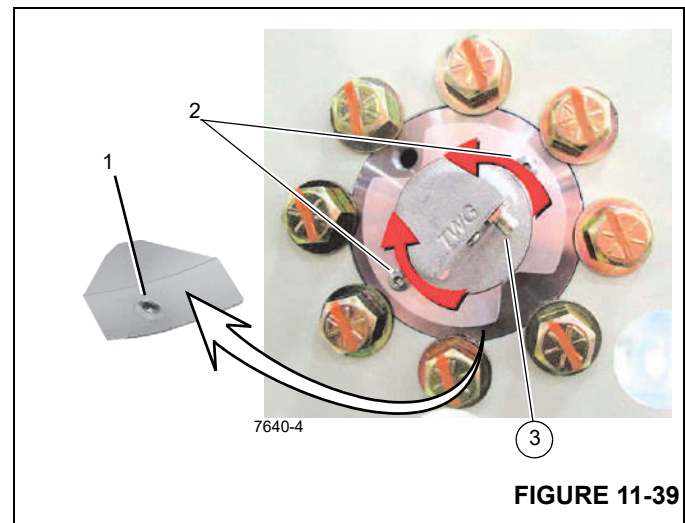

FIGURE 11-39
7. Loosen the set screw (1, Figure 11-39) on the side of the DRI flange.
8. Using the spanner wrench holes (2, Figure 11-39) rotate the DRI so that the connector (3) is pointed down.
9. Tighten the set screw (1, Figure 11-39) after the DRI is positioned as desired.